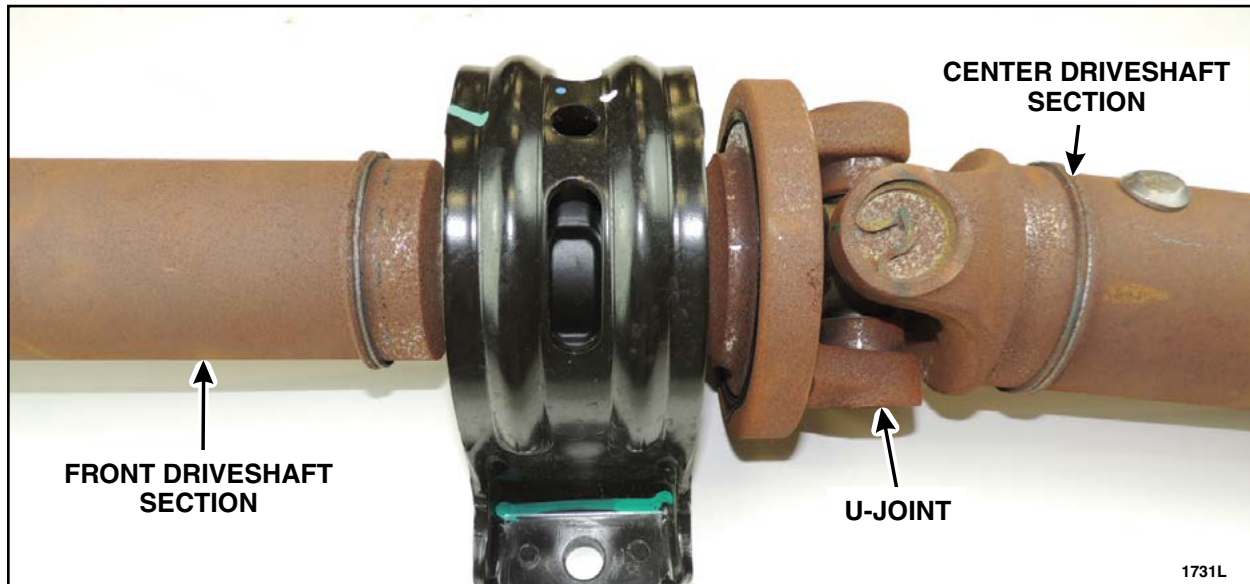

FIGURE 23
1. Remove and discard the four snap rings and center u-joint to separate the front driveshaft section from the center section. Please follow the universal joint kit instructions. See Figure 23.